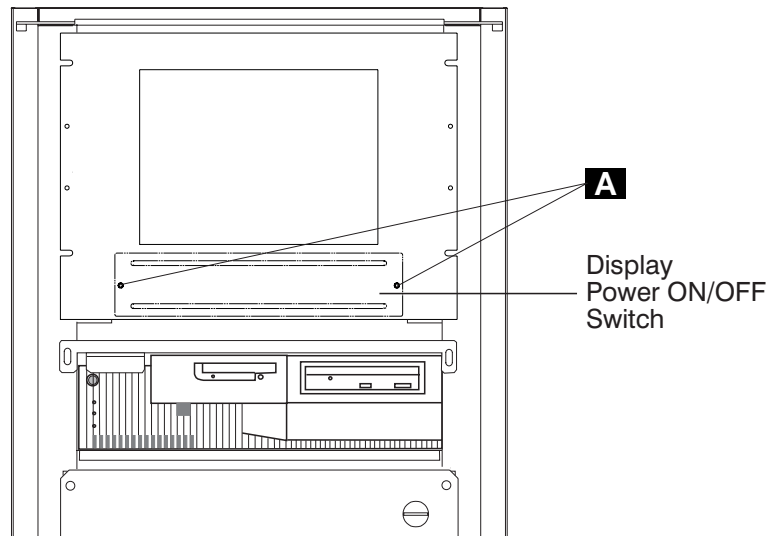

Figure 6-9. Display Power ON/OFF Switch
6. Switch on the display using the power ON/OFF switch located on the front panel (see Figure 6-9 on page 6-8).